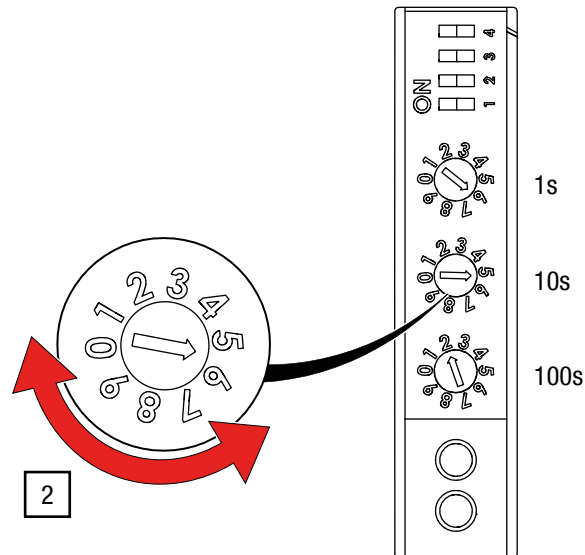

Fig. 26: DMX address coding switches on the G-FRAME control unit
2. Using a screwdriver, set the three DMX address coding switches (1s, 10s and 100s digits) to the desired digits (see Fig. 26).
In Fig. 26 the DMX address 256 is set as an example. The slide switches 1-4 ("dipswitches") remain switched off.